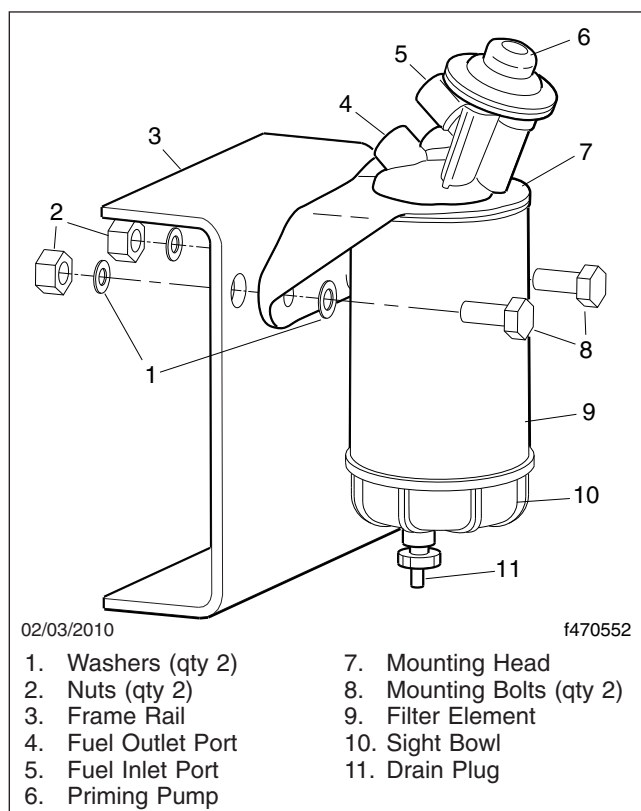

Fig. 23.11, Alliance Fuel/Water Separator Assembly and Installation
5.3 *Alliance/Racor Models:* Turn the drain plug counterclockwise to open it. See Fig. 23.11.